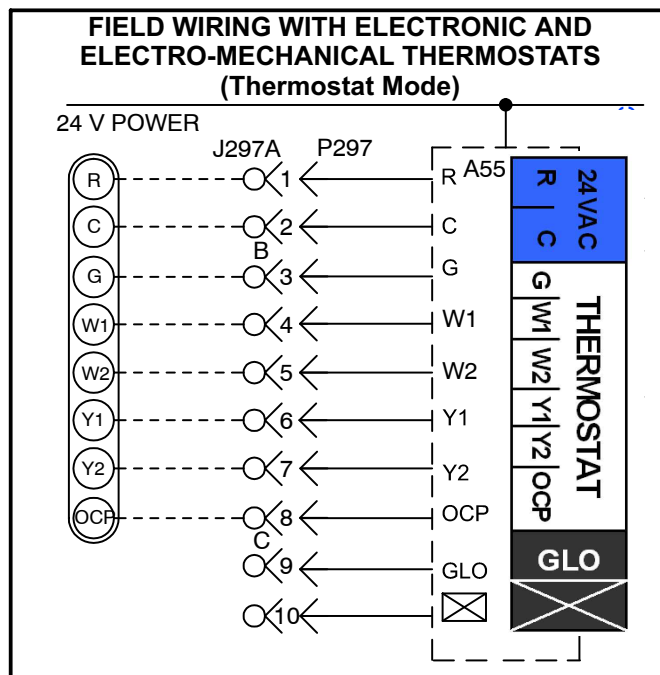
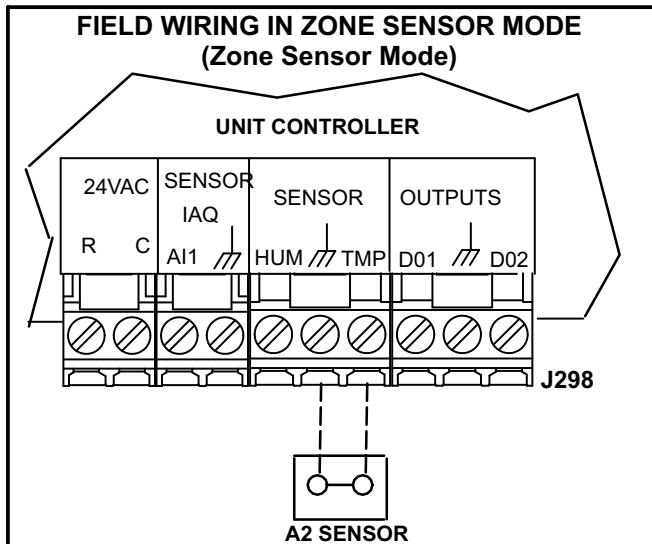
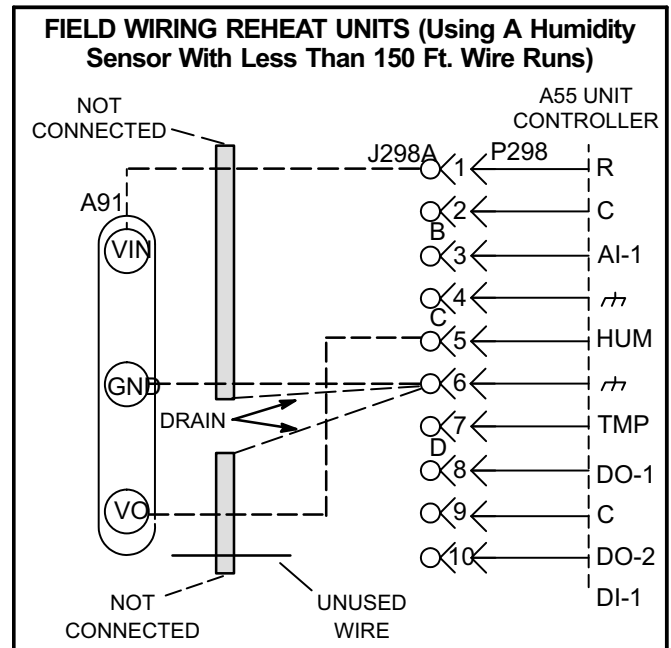

FIGURE 8
FIGURE 9
FIGURE 10
The Unit Controller will operate two stages of heating and cooling based on thermostat demands. Install thermostat assembly in accordance with instructions provided with thermostat. See figure 8 for field wiring and refer to wiring diagrams on unit.
The Unit Controller will operate heating and cooling based on the Unit Controller internal setpoints and the temperature from the A2 zone sensor. An optional Network Control Panel (NCP) can also be used to provide setpoints. A thermostat or return air sensor can be used as a back-up mode. Make zone sensor wiring connections as shown in figure 9.
- 2- Make wiring connections as shown in figure 8 for Thermostat Mode and figure 9 for Zone Sensor Mode. In addition, connect either a humidity sensor or a dehumidification input. See figure 10 or 11 for humidity sensor wiring and figure 12 for dehumidification input wiring.
Use two separate shielded cables containing 20AWG minimum, twisted pair conductors with overall shield. Belden type 8762 or 88760 (plenum) or equivalent. Connect both cable shield drain wires to TB1-7 as shown in figure 10.
Use two separate shielded cables containing 18AWG minimum, twisted pair conductors with overall shield. Belden type 8760 or 88760 (plenum) or equivalent. Connect both cable shield drain wires to TB1-7 as shown in figure 10.